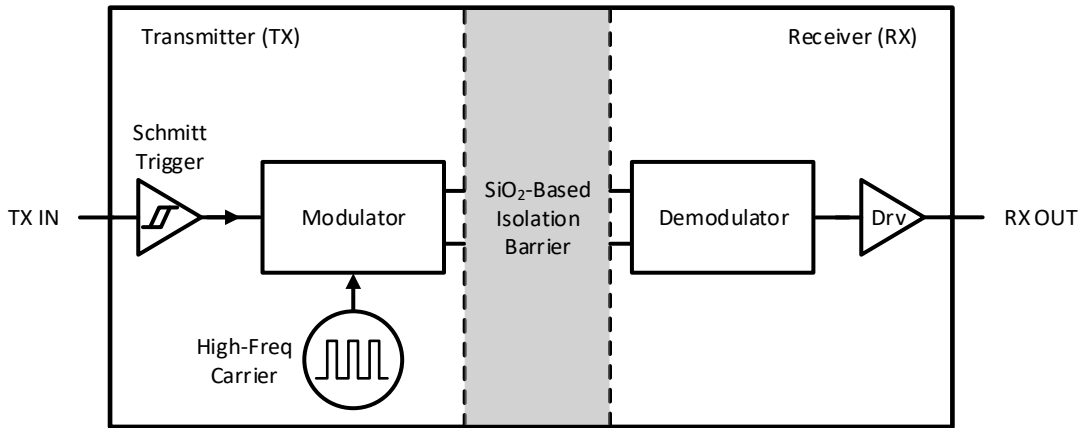

Figure 9-2 Block Diagram of an Isolation Channel
The CA-IS1200 devices utilize a simple on-off keying (OOK) modulation scheme to transmit the digital bitstream across the SiO2-based isolation barrier which supports up to 3750-VRMS (CA-IS1200U) or 5000-VRMS (CA-IS1200G) galvanic isolation between high- and low-voltage domain. The block diagram of an isolation channel is shown in Figure 9-2. As shown in Figure 9-3, the transmitter (TX) modulates the digital bitstream with a high-frequency carrier when the signal is HIGH while sends no signal